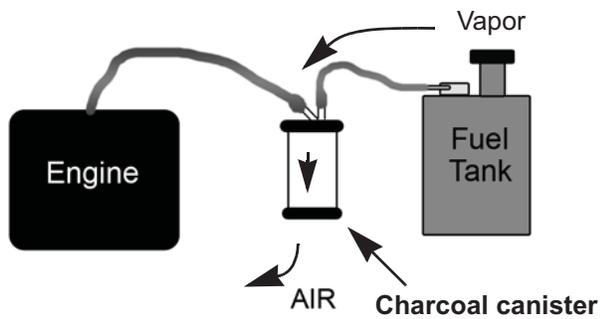

Figure 4.10
3. The vapors are routed through the charcoal canister. See Figure 4.10.